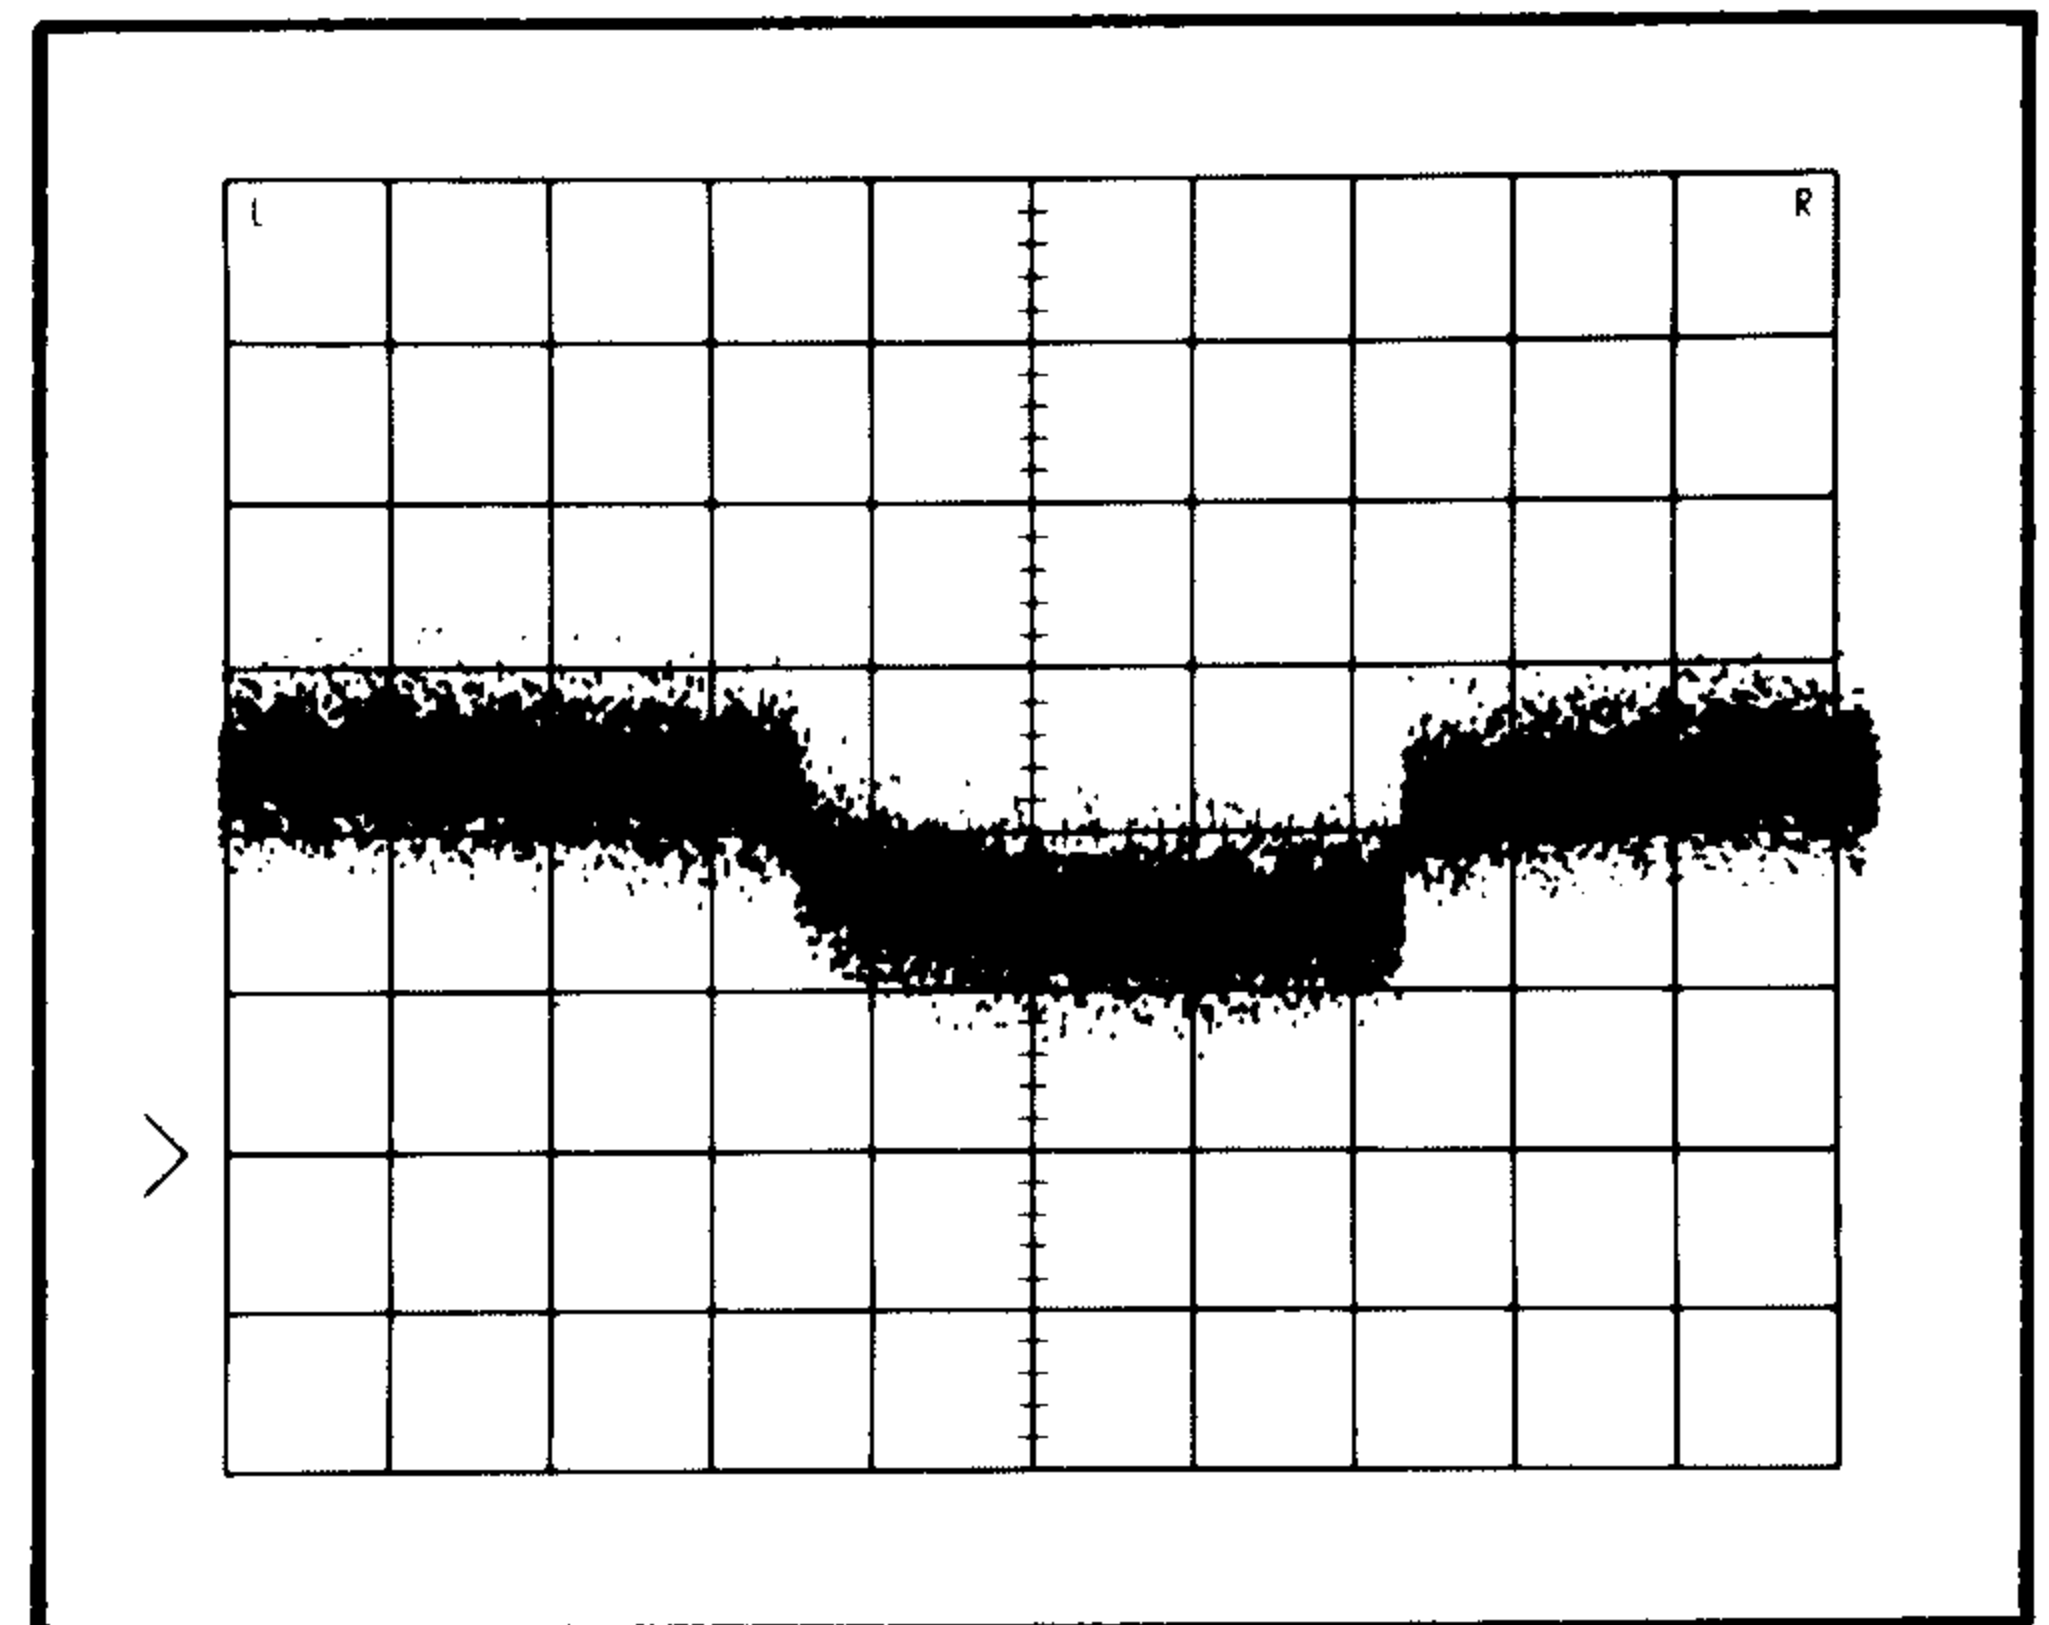

Fig. 5-3. Typical CRT display for tangential noise.
g. With the Type 4S2A POSITION control and the Type 106 + Transition Amplitude control, adjust the displayed signal so that approximately 10% of the baseline dots are above a given horizontal line, and approximately 10% are below the same horizontal line. (See Fig. 5-3.) This represents a signal-to-noise ratio of 1:1.